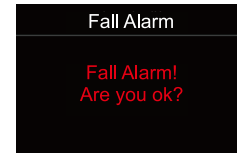

Fig 4
4. When the fall alert function is activated, the switch status icon changes to . If a fall is detected, the indicator icon  will display, a prompt box will appear (as shown in Figure 4), the buzzer will sound, and the LED indicator will remain on. To cancel the fall alert, press and hold the left and right buttons simultaneously for 2 seconds.